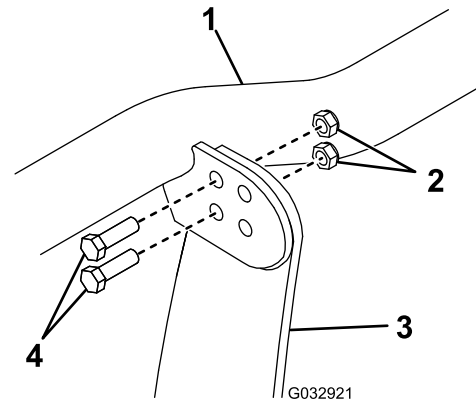

Figure 10
1. Secure the light bar to the top of the coupler tower through the rear holes using 4 bolts (3/8 x 1-1/4 inch) and self-locking nuts (3/8 inch) (Figure 10). Torque the bolts to 31 N·m (23 ft·lb).